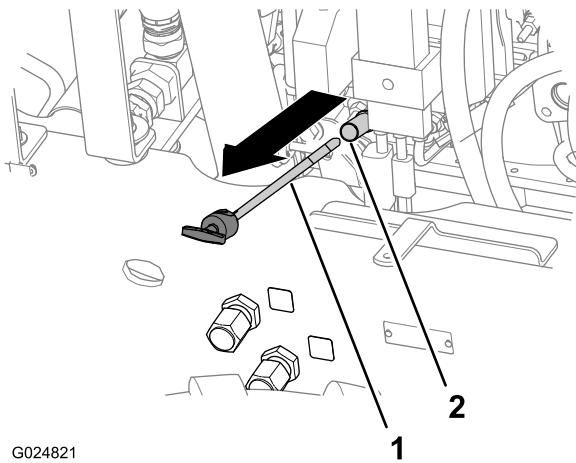

Figure 24
4. Remove the dipstick and wipe it clean with a clean cloth (Figure 24).
5. Insert the dipstick fully into the dipstick tube, then remove the dipstick (Figure 24).